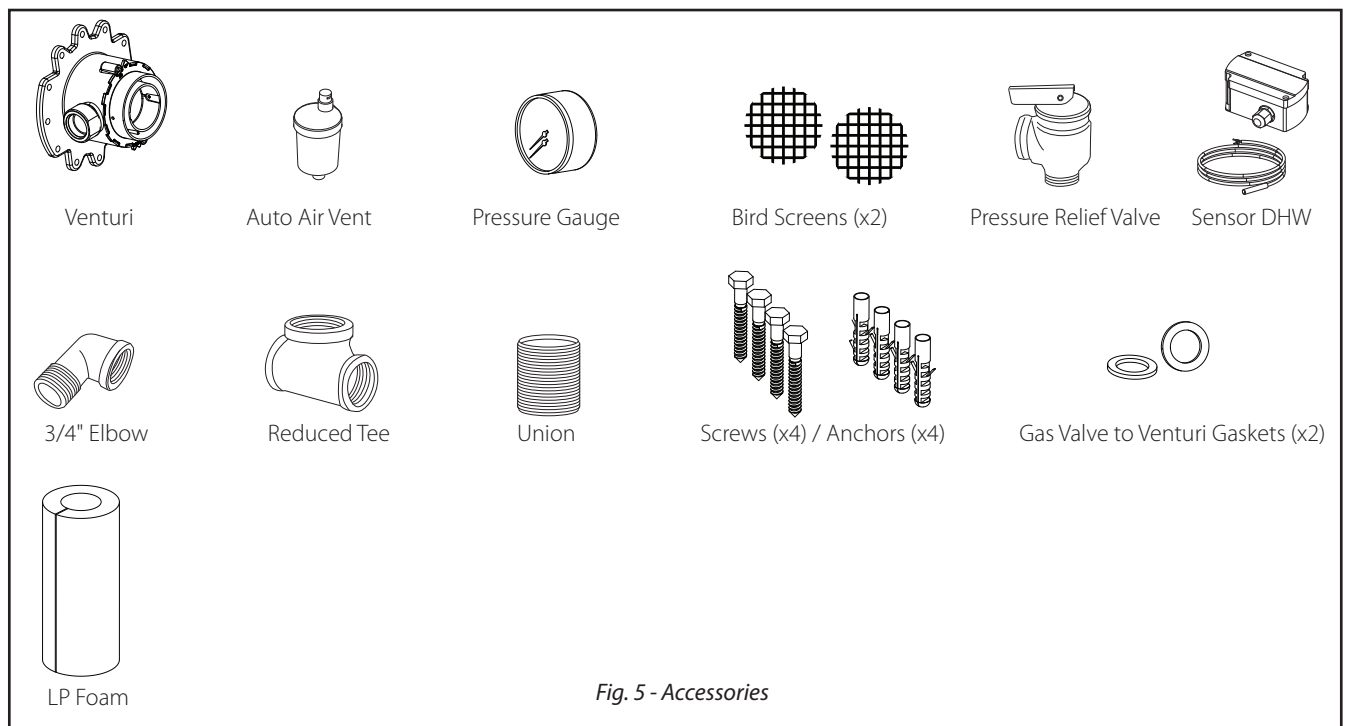

Fig. 5 - Accessories
Unpack and check the the list of all accessories as shown in *Fig. 5* below.
1. The INSTINCT is supplied with a 30 psi pressure relief valve and must be piped using the PRV connection as shown in *Fig. 5 below*.